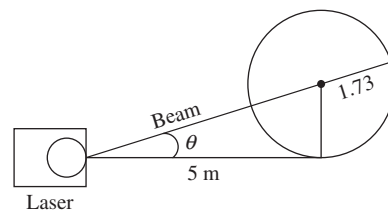

Figure P3.6 Laser beam for problem P3-6.
- 3-6.** A laser beam is directed through a small hole in the center of a circle of radius 1.73 m. The origin of the beam is 5 m from the circle as shown in Fig. P3.6. What should be the angle θ of the beam for the beam to go through the hole? Use the law of sines.